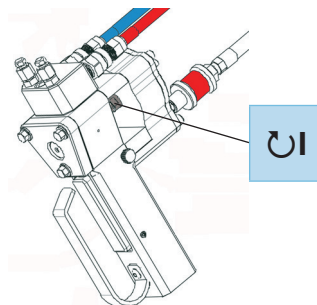

Fig. 12.19
- the rear seals on the nut for leakages, (Fig. 12.19).